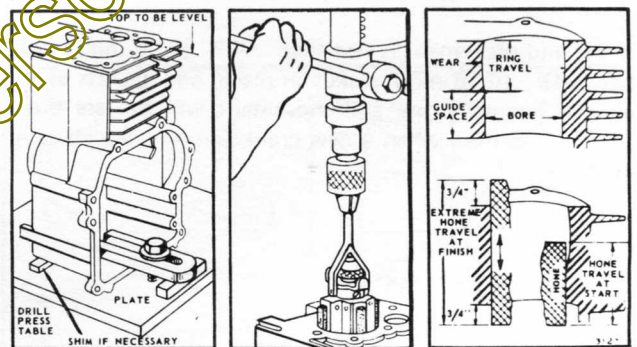

FIGURE 9-2
2. Fasten the cylinder to a heavy iron plate or make a bracket like figure 9-2.
6. Start the drill. Move the hone up and down at the lower end of the cylinder bore. See figure 9-2. The cylinder bore is not worn at the bottom so the hone will have a straight surface for a guide.